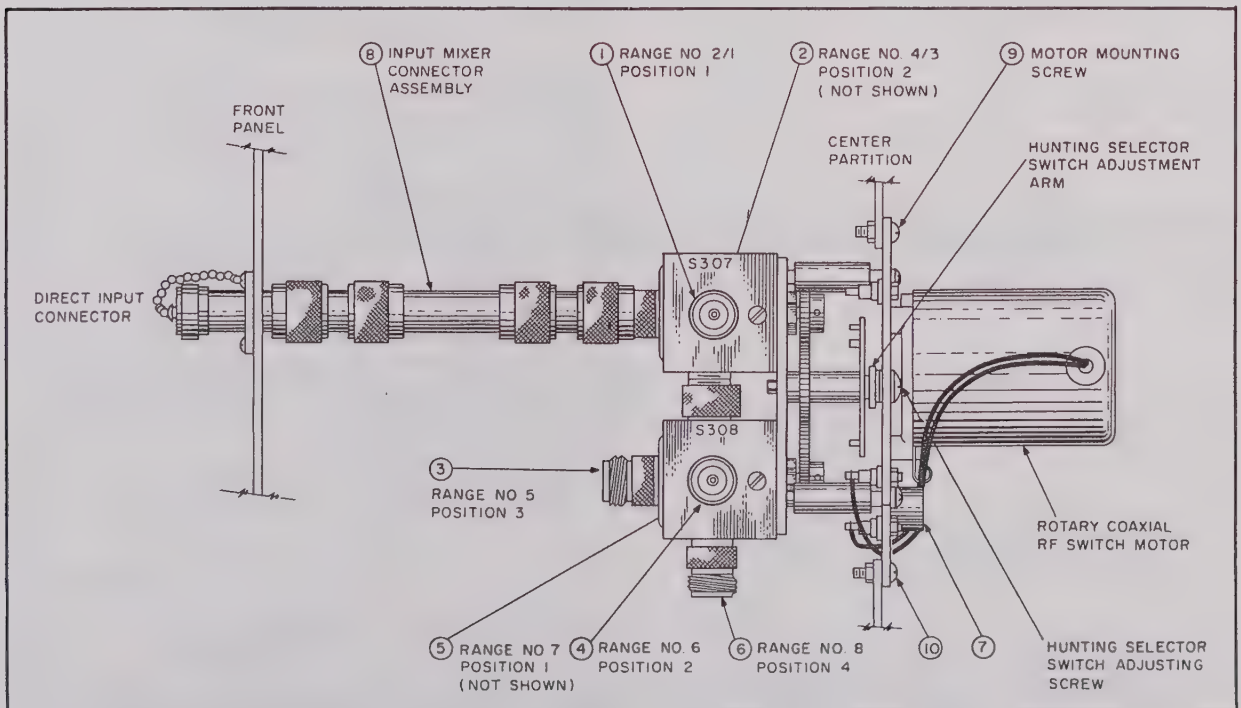

Figure V-34. Rotary Coaxial Switches (S307 and S308) for Serial Numbers 251 and up.
Reference figure V-34
2. Procedure for Removal and Replacement of Rotary Coaxial RF Switch Assembly (Serial nos. 251 and up). Reference Figure V-34.